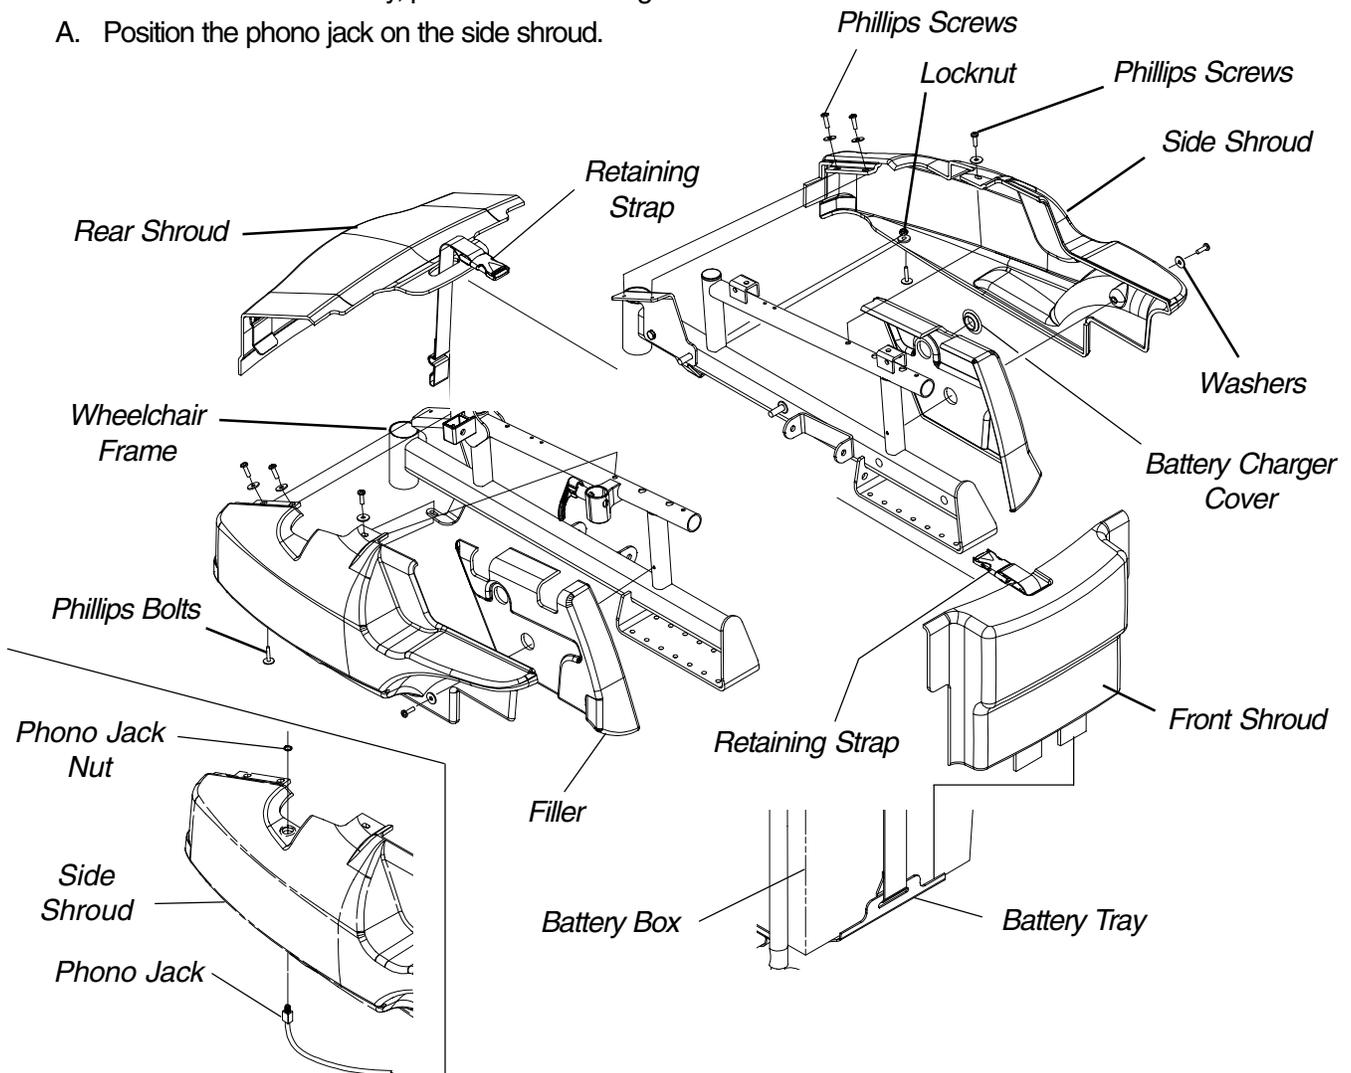

FIGURE 14 - REMOVING/INSTALLING SHROUDS - FWD WHEELCHAIRS
**REMOVING/INSTALLING SHROUDS (FIGURE 14)**
1. Feed the retaining strap through the front shroud as shown in FIGURE 14.
3. Press down on the rear shroud until the two (2) clips secure the rear shroud to the two (2) side shrouds.
3. Perform one (1) of the following:
5. Remove the phillips screws, bolts, washers and lock-nuts that secure side shroud and filler to the wheelchair frame. Refer to FIGURE 14 for phillips screw and washer locations.
3. Install the phillips screws, bolts, washers and locknuts that secure the side shroud and filler to the wheelchair frame and tighten securely. **DO NOT OVERTIGHTEN.** Refer to FIGURE 14 for phillips screw, bolt, washer and locknut locations.
6. Perform one (1) of the following: